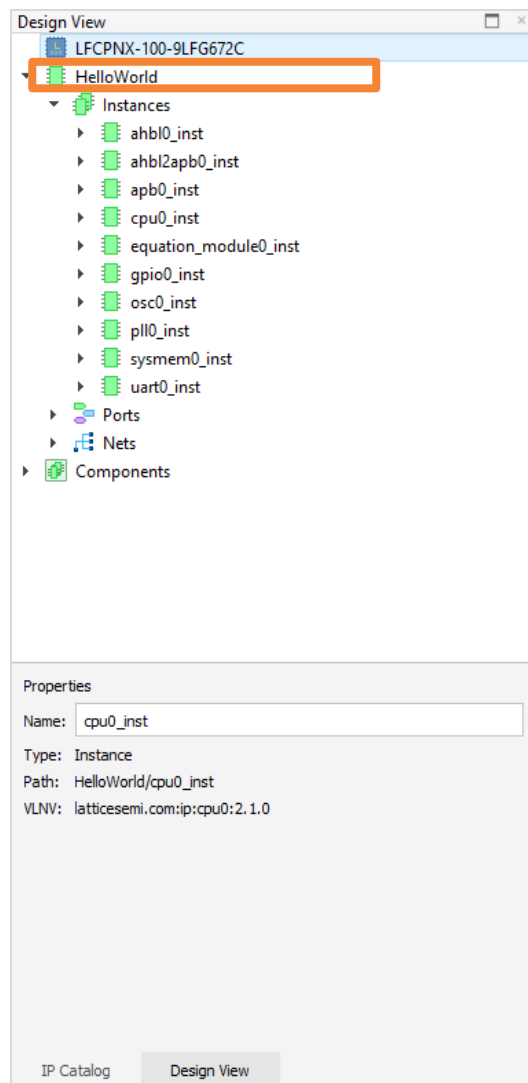
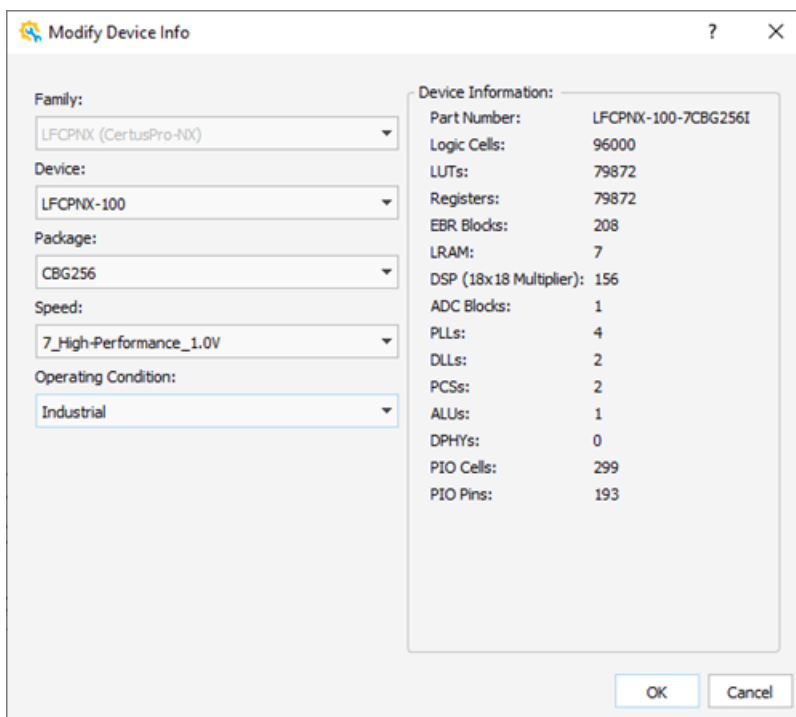

Figure 2.147. Design View of Device Part Number
Figure 2.148. Modify Device Info
1. Double click the device part number from the Design View (Figure 2.147), the Modify Device Info wizard pops up (Figure 2.148).
2. Use the drop-down menu to choose the desired device in **Device** filed in the Modify Device Info wizard (Figure 2.148). Use the drop-down menu to change the package, speed and operating condition in **Package, Speed, Operating Condition** filed.